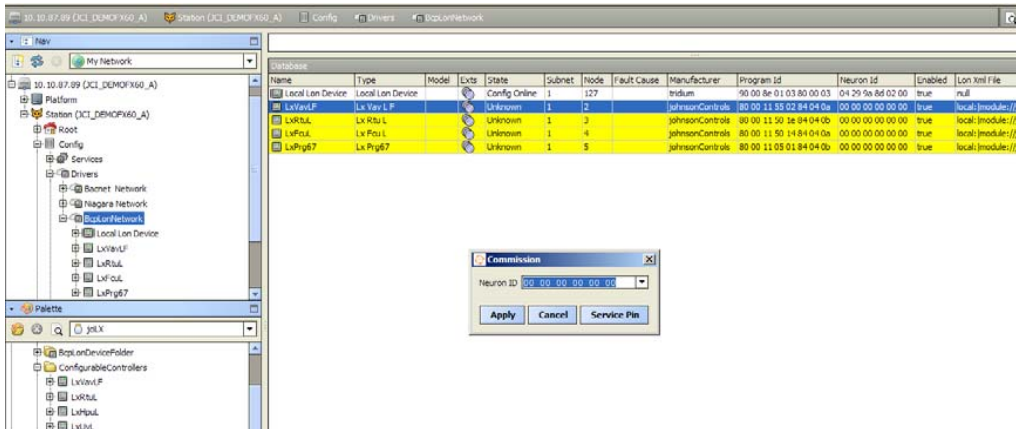

Figure 36: Commissioning
1. Select the device and click **Commission**. The Commission window appears (Figure 36).
3. Click **Apply** (Figure 36).